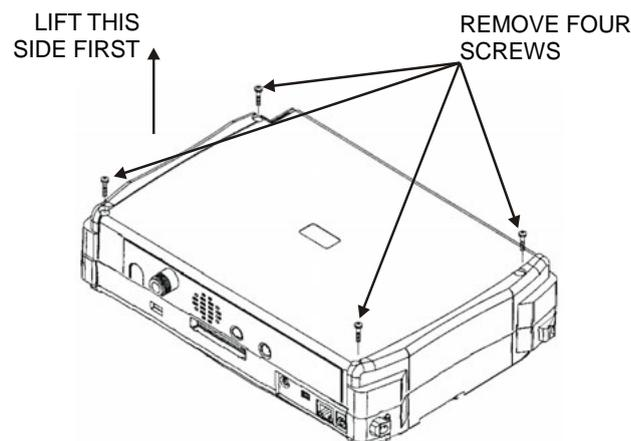

Figure 3-5. Remove the Four Screws
4. Use a Phillips screwdriver to remove the four screws securing the 2 halves of the MS203xA case together (Figure 3-5).